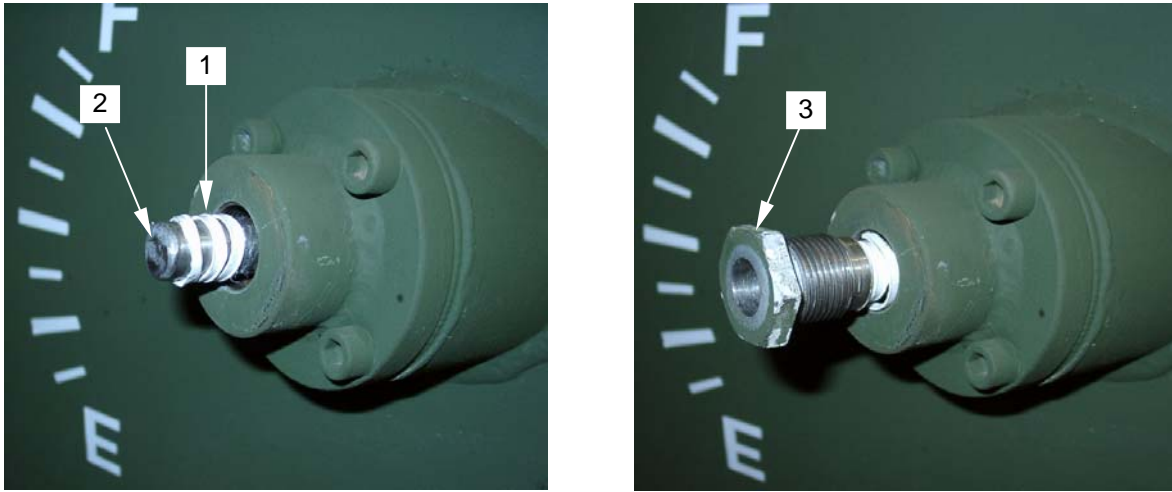

Figure 3. Installing Float Level Indicator Packing
- c. Obtain an approximately six inch length of packing (**figure 3, item 1**) and wrap it around the threaded cylinder rod (**figure 3, item 2**).
- d. Re-install packing gland nut (**figure 3, item 3**) and tighten sufficiently to stop the leak, but ensure arrow indicator moves freely.